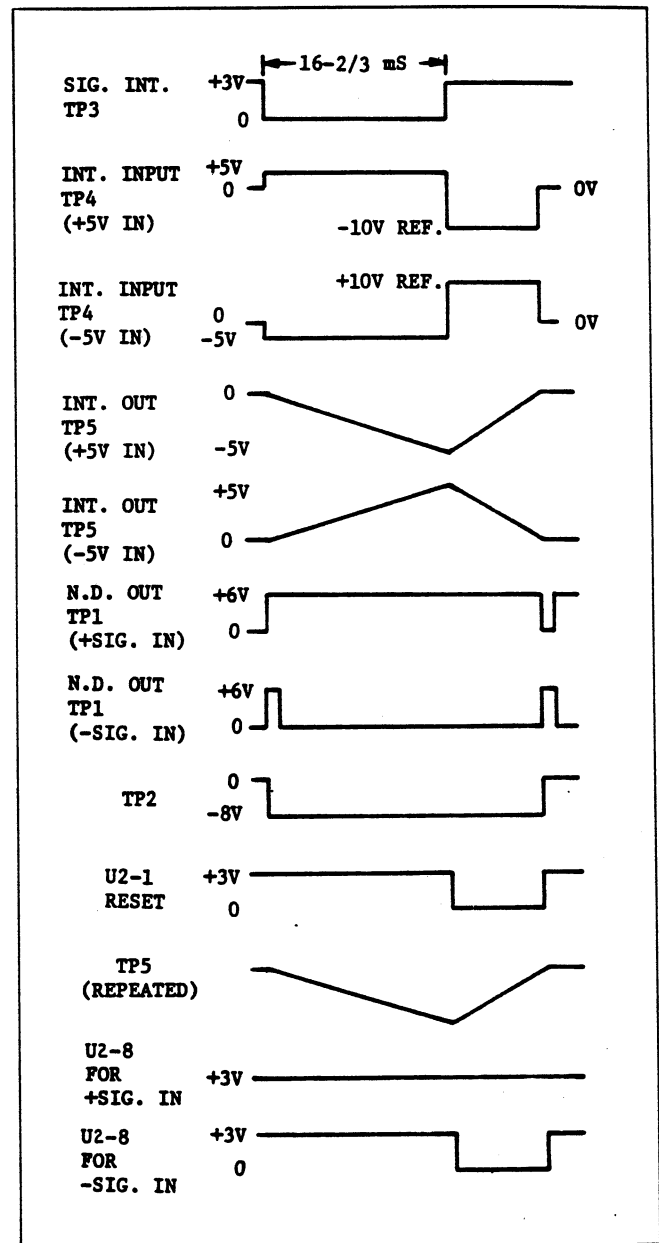

Figure 5.18 - Integration Timing Diagram, 5 1/2 Digit Mode
**5.3.5.6.5** The end of the reference integration period occurs when the Null Detector detects an axis crossing and changes state. When a reset pulse is applied to T2, Q4 is turned on and Q3 is turned off. Both of the polarity switch drive flip-flop outputs are set high, which holds both reference switches (Q21 and Q22) open. The reset signal also closes reset switches Q7, Q11 and Q16. Integration timing is shown in Figure 5.18.